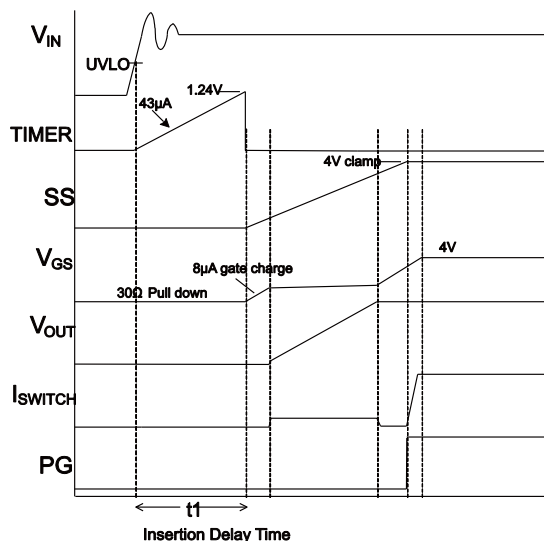

Figure 4: Start-Up Sequence
For hot-swap applications, the input of the MP5025C can experience a voltage spike or transient during the hot-plug procedure. This is caused by the parasitic inductance of the input trace and the input capacitor. To help stabilize the input voltage, an insertion delay is implemented before the main FET is turned on. TIMER charges the external capacitor (C_T) through a 43μA constant current source when the input voltage reaches the UVLO threshold (see Figure 4). The insertion delay finishes when the TIMER voltage reaches 1.24V. The capacitance of C_T can be determined with Equation (2):